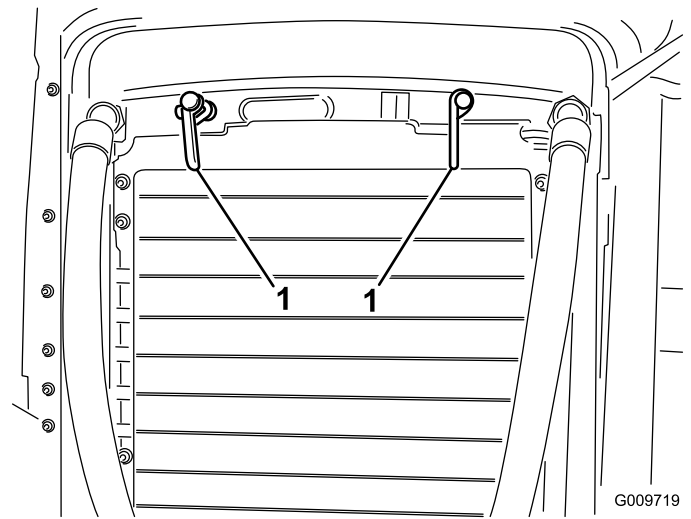

Figure 50
2. Rotate the latches (Figure 50) securing the oil cooler to the frame.